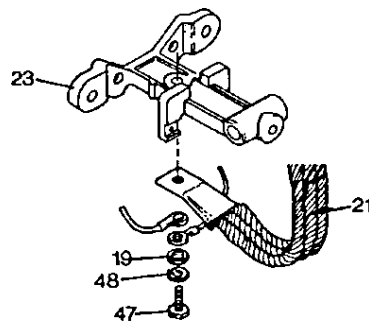

Figure 6 Assembling the Arc Chute Wires and Shunt
1. Remove all power. Disconnect arc chute wires by removing the hex head cap screw (item 47), washer (item 19), lock washer (item 48), arc chute wires and shunt (item 21).
3. Remove arc chute by removing hex head nut (item 17), lock washer (item 8) and hex head screw (item 45).
6. Reconnect arc chute wires and shunt, using washer, lock washer and hex head cap screw (see Figure 6).
3. Visually verify that auxiliary arm pin (item 27) is centered and set screw (item 18) is tight.
5. Connect bottom end of shunt by replacing arc chute wires, washer, lock washer and hex head cap screw (see Figure 6 on page 7).